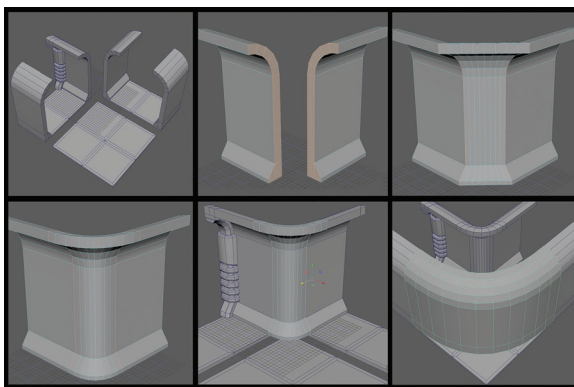

FIGURE 1.55 Creating a transition part for an outer corner.
Step 8: Wall corner. We can create rounded corners for our rounded walls for when walls meet as we assemble them. Duplicate and snap our modules like the first figure in Figure 1.55. You can hold down the J button while rotating to snap your rotation for every 5 degrees. It is important that the modules are snapped to each other exactly. Have one blue (64 units) grid gap between the two hallways or corridors and the turning portion of the floor. This is to ensure that there is space for the rounded transition part.
Moving on to the second figure of Figure 1.55, select these two walls of the turning point, duplicate (Ctrl+D) them, and combine (Mesh->Combine) them. Grab the two columns of the faces that will connect to the turning portion. Hold down Shift+right mouse button and chose Bridge Faces. The result may look messy, so change the division to 7, and Curve type to Blend. The resulting middle part is going to be our turning module; delete the extra ones on the side and bridge the holes on the side to finish it. The outer corner is done the same way.